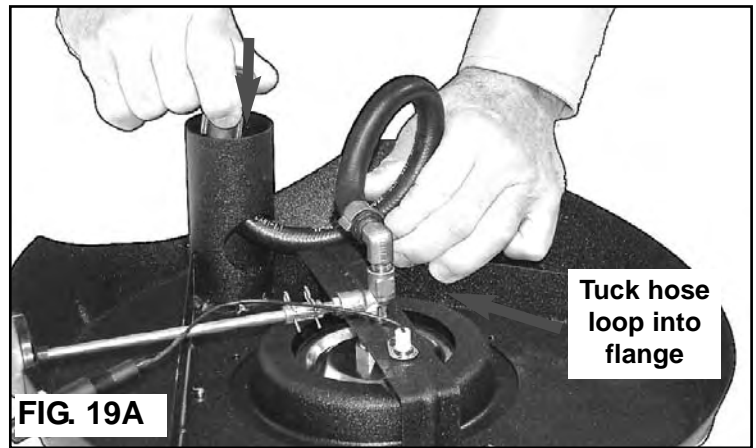

FIG. 19A
(FIG. 19A) Normal wear and corrosion could enlarge some holes, however, if large cracks or holes are found, replace the Burner. **Note: It is normal for surface rust to be present on the burners.**
- a) Install the Side Burner Cover on the Side Burner Table. Remove the Side Burner Table or the Side Table. Turn the Side Burner upside down. Push the hose back down into the collar while pulling with the other hand. **(FIG. 19A)** Tuck the hose within the flange.